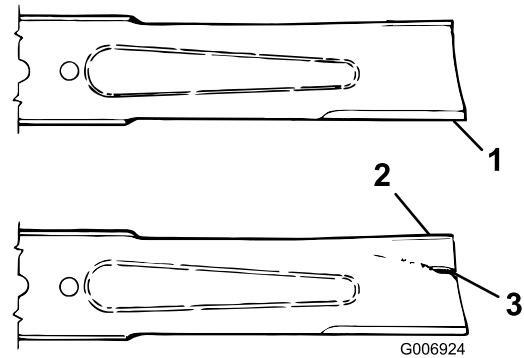

Figure 89
3. Examine the cutting ends of the blade carefully, especially where the flat and curved parts of the blade meet (Figure 89).
4. Since sand and abrasive material can wear away the metal that connects the flat and curved parts of the blade, check the blade before using the machine. If wear is noticed (Figure 89), replace the blade; refer to Removing the Cutter Blade (page 66).
If the blade is allowed to wear, a slot will form between the sail and flat part of the blade (Figure 89). Eventually a piece of the blade may break off and be thrown from under the housing, possibly resulting in serious injury to yourself or bystanders.